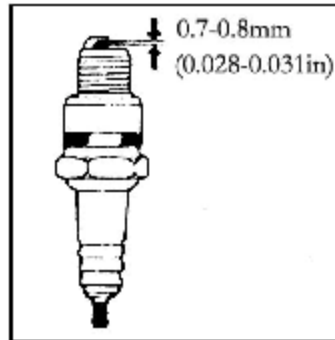

Figure 16
- ② Check the spark plug. If it is obviously worn or the insulation has any crack or damage, please replace it, if it has too much carbon deposition; use a wire brush to clean it.
- ③ Use a clearance gauge to measure the spark plug gap, correct value of which shall be 0.70 to 0.80 mm. (See Fig.16)
- ④ Check whether spark plug washer is good. In order to avoid thread alternating, use hand to screw spark plug in first.
- ⑤ After screwing spark plug to the bottom, use a special socket spanner to tighten it and the washer below it.